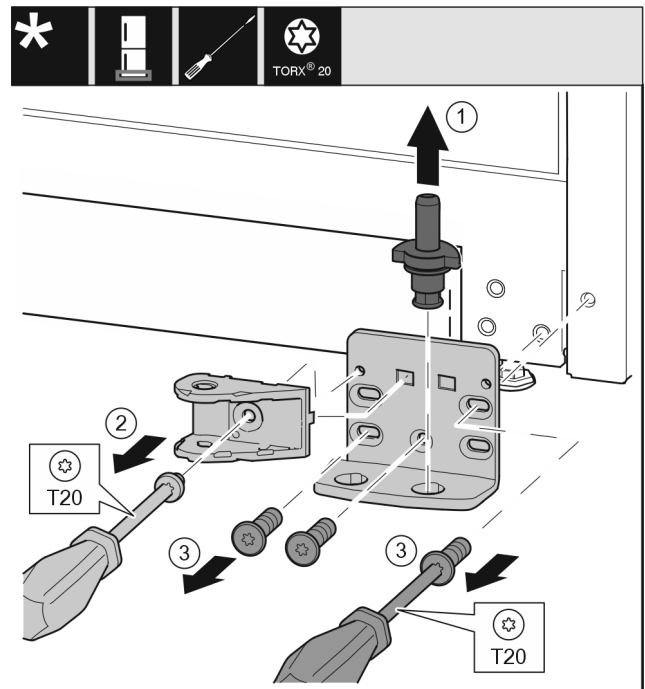

Fig. 32 *
- Lift the bearing pin completely upward and remove it. Fig. 32 (1)*
- Remove the screw with the T20 screwdriver and take off the soft close connection. Fig. 32 (2)
- Remove the screws with the T20 screwdriver and take off the bearing bracket. Fig. 32 (3)*